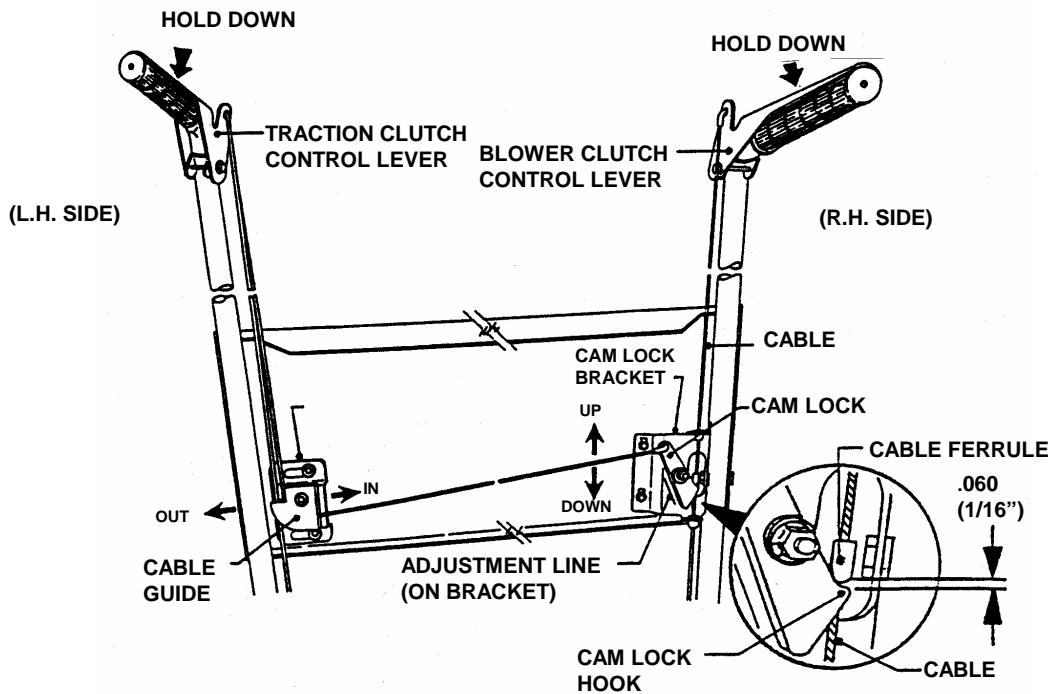

FIGURE 4.12
1. Hold the wheel drive control lever down against the handle. See Figure 4.12.
5. Check the position of the cable ferrule in relation to the cam lock. The ferrule must be located $1/16''$ (.060) above the hook of the cam lock. To adjust, loosen the three nuts that secure the cam lock bracket. Slide bracket up or down until correct measurement is achieved. Retighten nuts securely. See Figure 4.12.